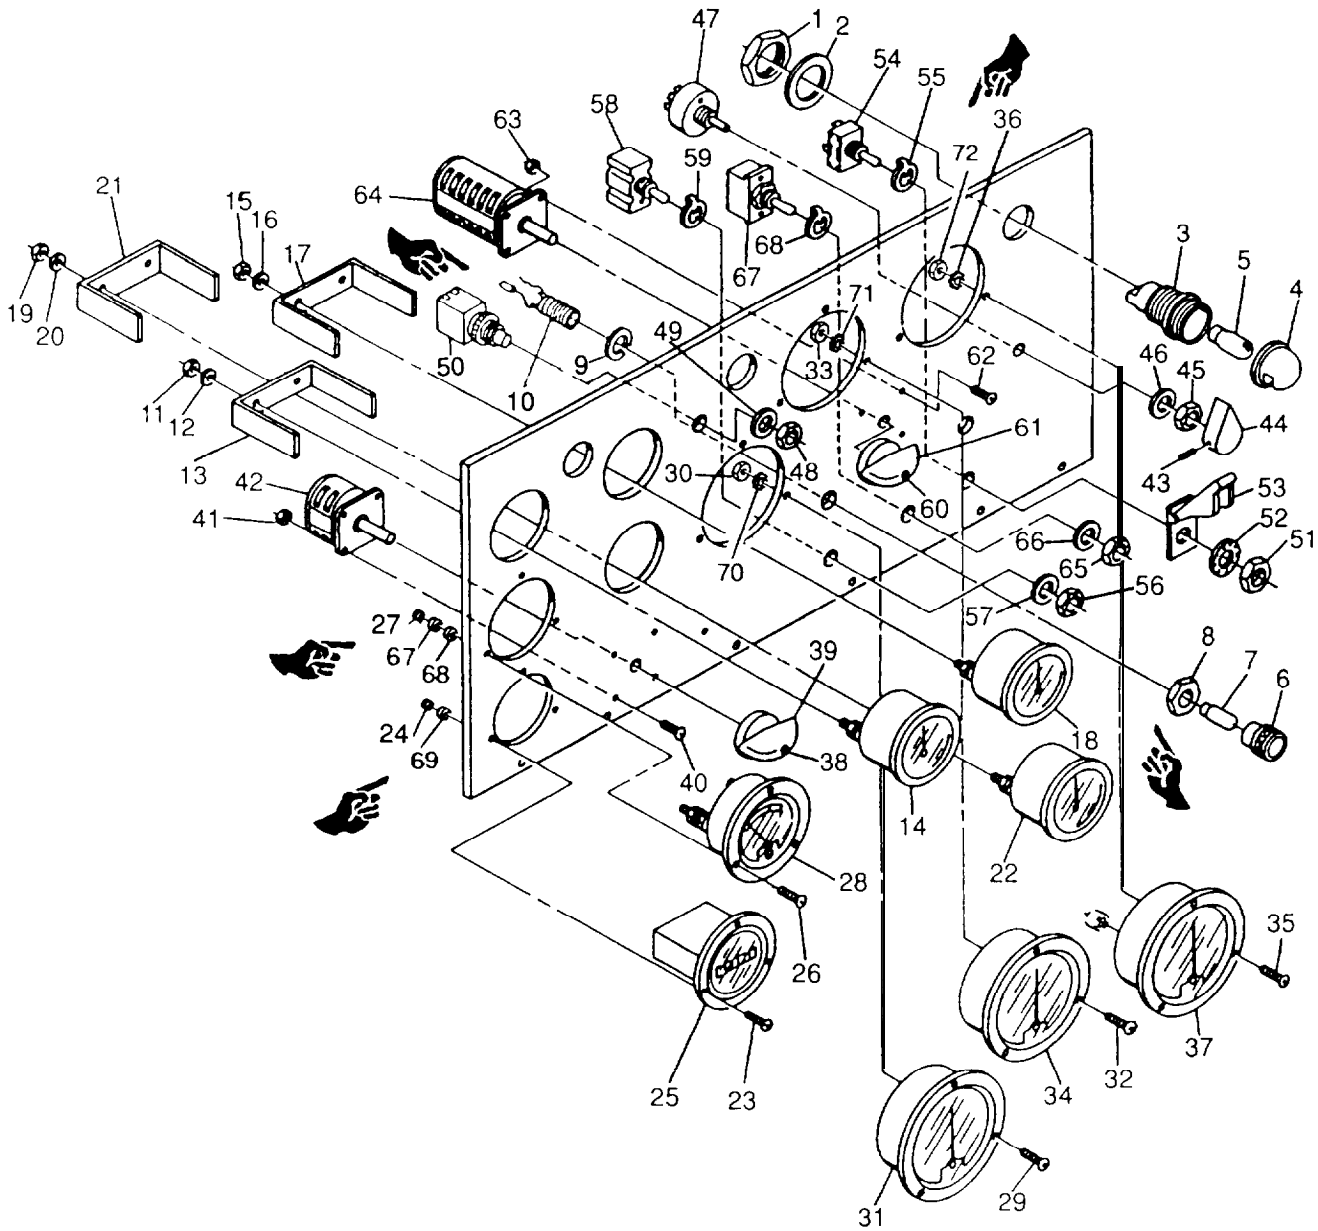

FIGURE 2-14. Control Panel Indicators and Switches
- d. Tag and disconnect panel light (3, FIGURE 2-14) electrical leads.
- e. Remove nut (1) and washer (2).
- f. Remove panel light (3) from control panel.
- a. Remove panel light directional cap (4, FIGURE 2-14) from panel light housing (3).
- b. Remove panel light bulb (5).
- a. Install panel light bulb (5, FIGURE 2-14) into panel light housing (3).
- b. Install panel light directional cap (4).
- a. Insert panel light bulb (3, FIGURE 2-14) into control panel.
- b. Install washer (2) and nut (1).
- b. Press in lamp holder (6, FIGURE 2-14) and check that lamp is lit.
- c. If lamp (7) fails to light, set multimeter for DC volts and check for battery voltage at receptacle (10) terminals 1 and 3.
- d. Tag and disconnect electrical leads to light receptacle (10, FIGURE 2-14).
- e. Remove lamp holder (6), nut (8), lockwasher (9), and receptacle (10) from control panel.
- f. If necessary, remove lamp (7) from lampholder (6).
- a. Install indicator light receptacle (10, FIGURE 2-14) in control panel with lockwasher (9) and nut (8).
- b. If removed, install lamp (7) in lamp holder (6).
- c. Install lamp holder (6) receptacle (10).
- d. Tag and disconnect fuel level indicator (14, FIGURE 2-14) electrical leads.
- e. Remove nuts (11, FIGURE 2-14), washers (12), and clamp (13).
- f. Remove FUEL LEVEL indicator (14) from control panel.
- a. Insert FUEL LEVEL indicator (14, FIGURE 2-14) into control panel.
- b. Install clamp (13), washers (12), and nuts (11).
- d. Tag and disconnect COOLANT TEMP. indicator (18, FIGURE 2-14) electrical leads
- e. Remove nuts (15), washers (16) and damp (17).
- f. Remove COOLANT TEMP. indicator (18) from control panel.
- a. Install COOLANT TEMP. indicator (18, FIGURE 2-14) in control panel.
- b. Install washers (16) nuts (15) and damp (17).